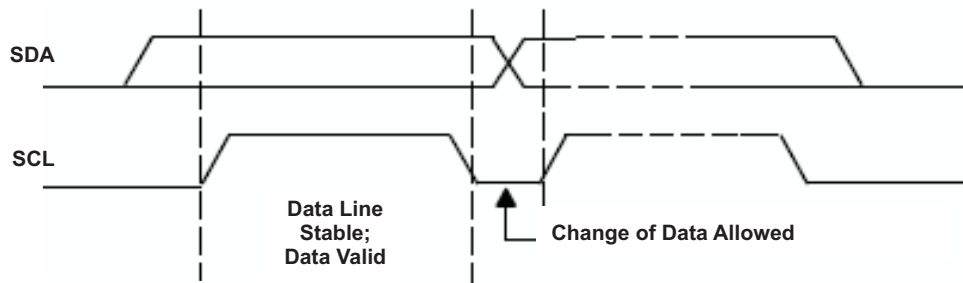
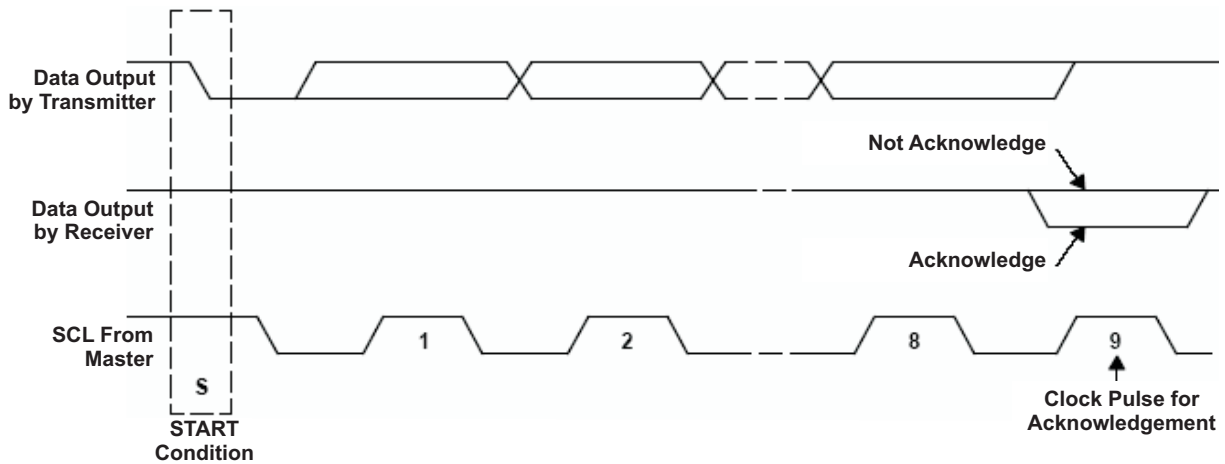

Figure 24. I2C Bit Transfer
Figure 25. I2C Acknowledge
- The master initiates data transfer by generating a *start condition*. The *start condition* is when a high-to-low transition occurs on the SDA line the SCL line is high, as shown in Figure 25. All I2C-compliant devices should recognize a *start condition*.
- The master generates the SCL pulses and transmits the 7-bit address and the *read/write direction bit* R/W on the SDA line. During all transmissions, the master ensures that data is *valid*. A *valid data* condition requires the SDA line to be stable during the entire high period of the clock pulse (see Figure 24). All devices recognize the address sent by the master and compare it to their internal fixed addresses. Only the slave device with a matching address generates an *acknowledge* (see Figure 25) by pulling the SDA line low during the entire high period of the ninth SCL cycle. On detecting this acknowledge, the master knows that a communication link with a slave has been established.